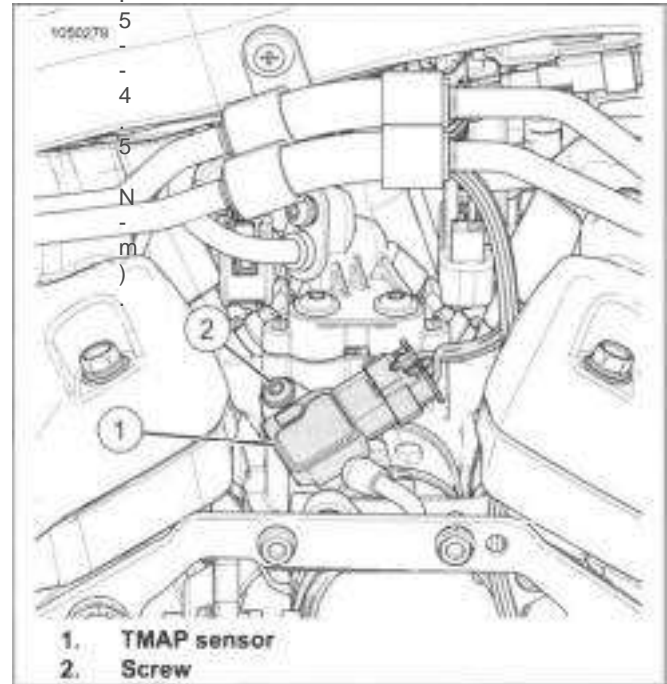

Figure 6-29. TMAP Sensor
- 2. See Figure 6-29 . Remove TMAP sensor.
- 1. See Figure 6-29. Install TMAP sensor.